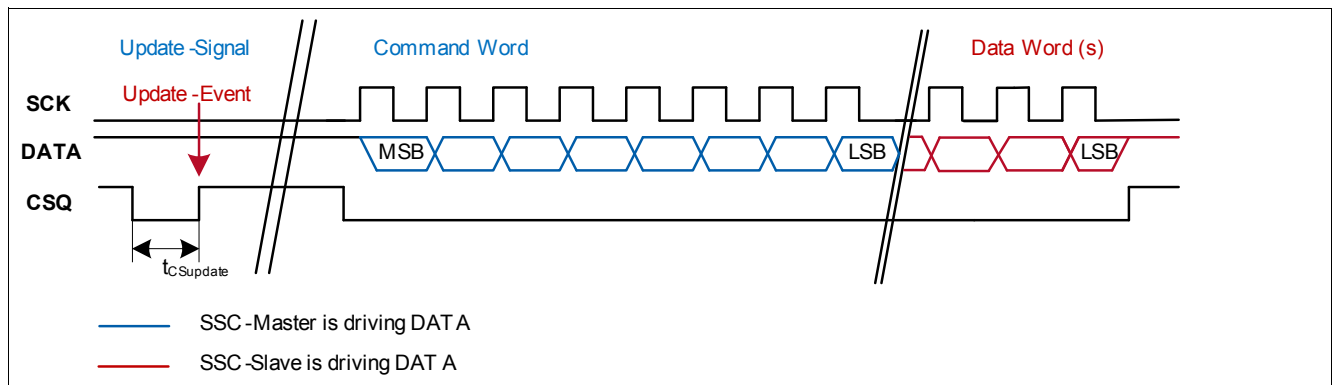

Figure 24 Update of update registers
- At a rising edge of CSQ without a preceding data transfer (no SCK pulse, see Figure 24), the content of all registers which have an update buffer is saved into the buffer. This procedure serves to take a snapshot of all relevant sensor parameters at a given time. The content of the update buffer can then be read by sending a read command for the desired register and setting the UPD bit of the Command Word to "1".